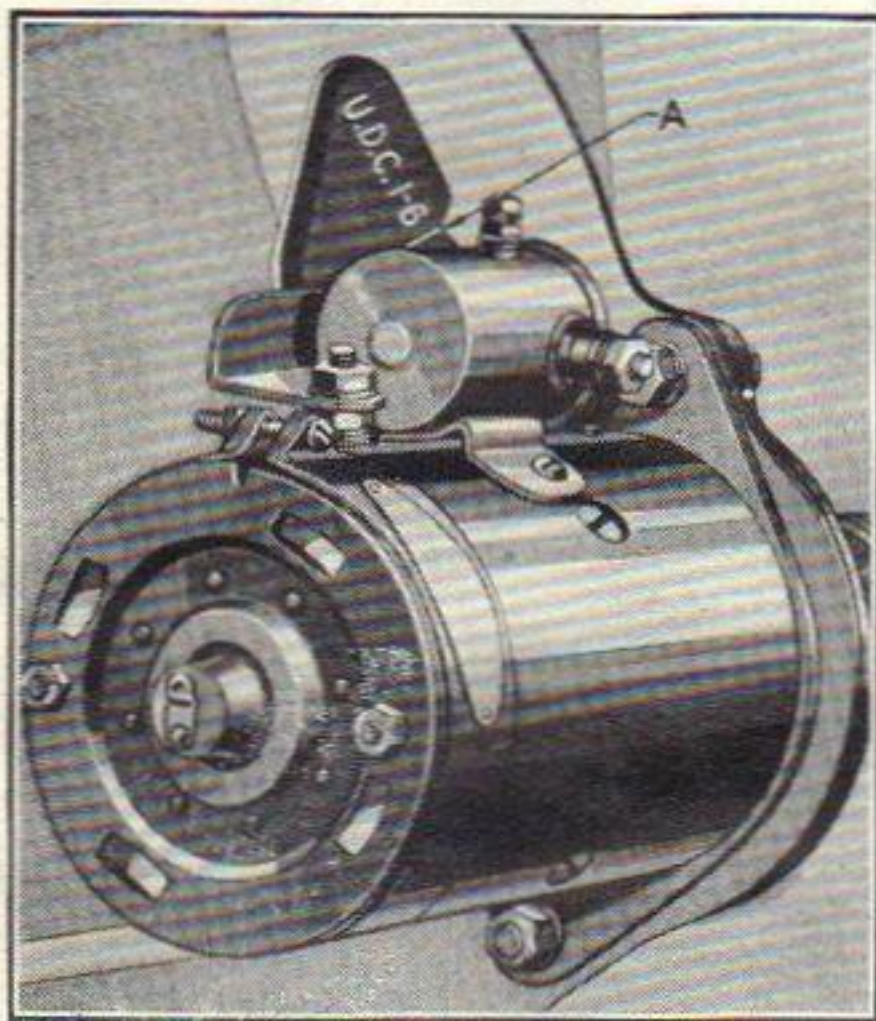

Figure 24
To check the ignition timing, remove the spark plug from No. 1 (front) cylinder. Place finger over the spark plug hole and turn over the engine by pressing the starter solenoid push button or starter switch rod in quick successive movements. When air pressure against the finger indicates that the piston is coming up on the compression stroke, continue cranking slowly until the mark U.D.C. 1-6 or U.D.C. 1-8 on the front face of the flywheel is in line with the pointer on the engine support plate as shown at "A" in Figure 24.
clamping plate (E). Remove the central cable from the distributor cap and place the bare end $\frac{1}{8}$ " from the intake manifold. With the ignition turned on and the U.D.C. 1-6 or U.D.C. 1-8 mark on the flywheel in line with the pointer on the inspection hole, Figure 24, turn the distributor body counterclockwise slowly just until a spark jumps from the high tension wire to the manifold. Tighten clamp screw (D), replace central cable in distributor cap and clamp cap on distributor.